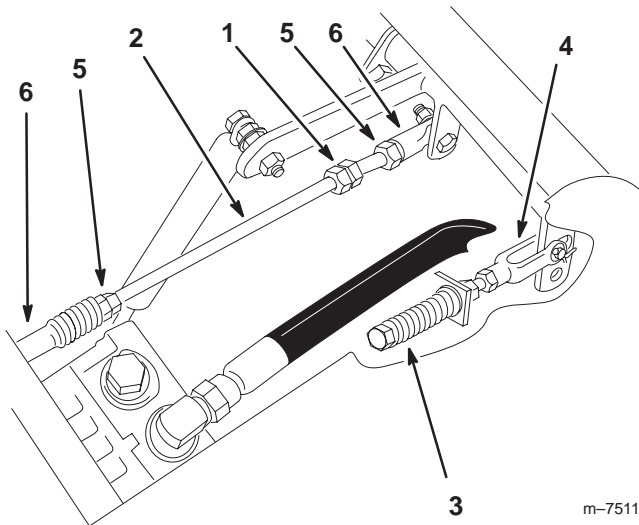

Figure 61
1. Loosen the locknuts at the ball joints on pump control rod (Fig. 61).
3. Adjust pump rod length by rotating double nuts on rod, in the appropriate direction, until wheel is still or slightly creeps in reverse (Fig. 61).
6. Tighten the locknuts at the ball joints (Fig. 61).